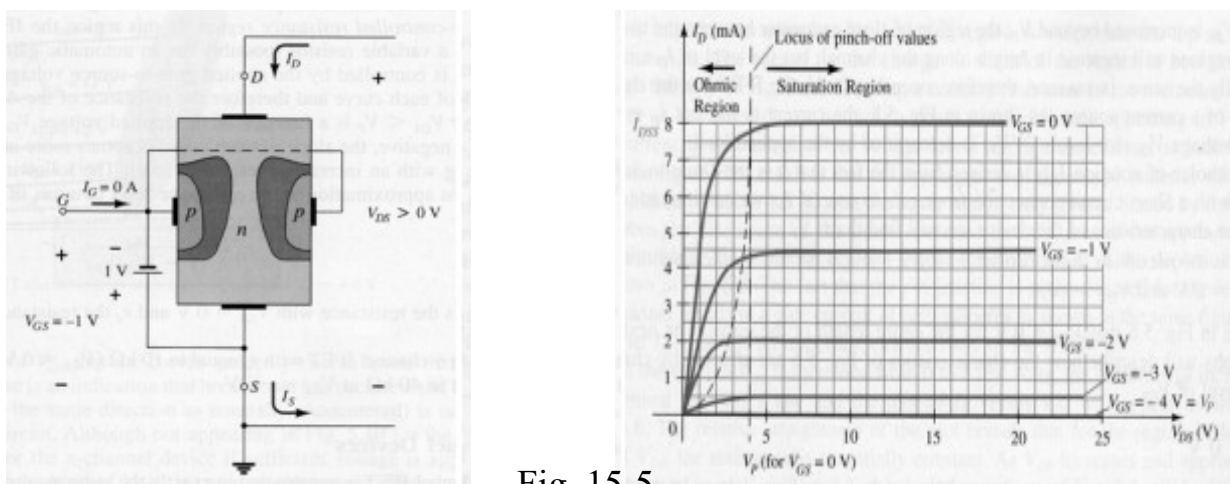

Fig. 15-5
- When  $V_{GS} < 0$  and  $V_{DS}$  some positive value: The effect of the applied negative-bias  $V_{GS}$  is to establish depletion regions similar to those obtained with  $V_{GS} = 0\text{ V}$  but at lower levels of  $V_{DS}$ . Therefore, the result of applying a negative bias to the gate is to reach the saturation level at lower level of  $V_{DS}$ , as shown in Fig. 15-5.